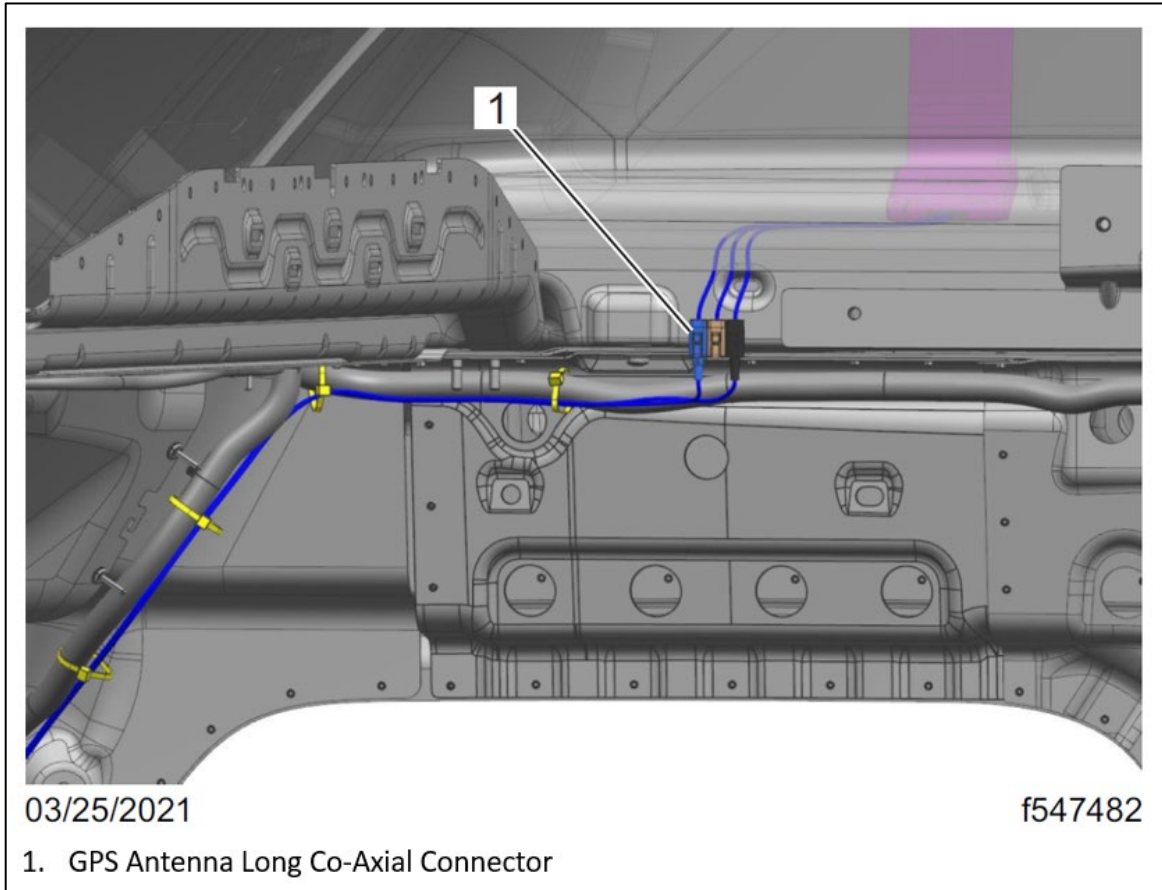

Fig. 57, Cummins Acumen GPS Antenna Long Co-Axial Cable Installation
11. Route the long co-axial cable from the right side of the electronics bay, along the existing wire harness through the RH side A-pillar, into the cab roof, and then connect it to the thin film antenna blue connector. See Fig. 57. Secure the cable with tie straps.